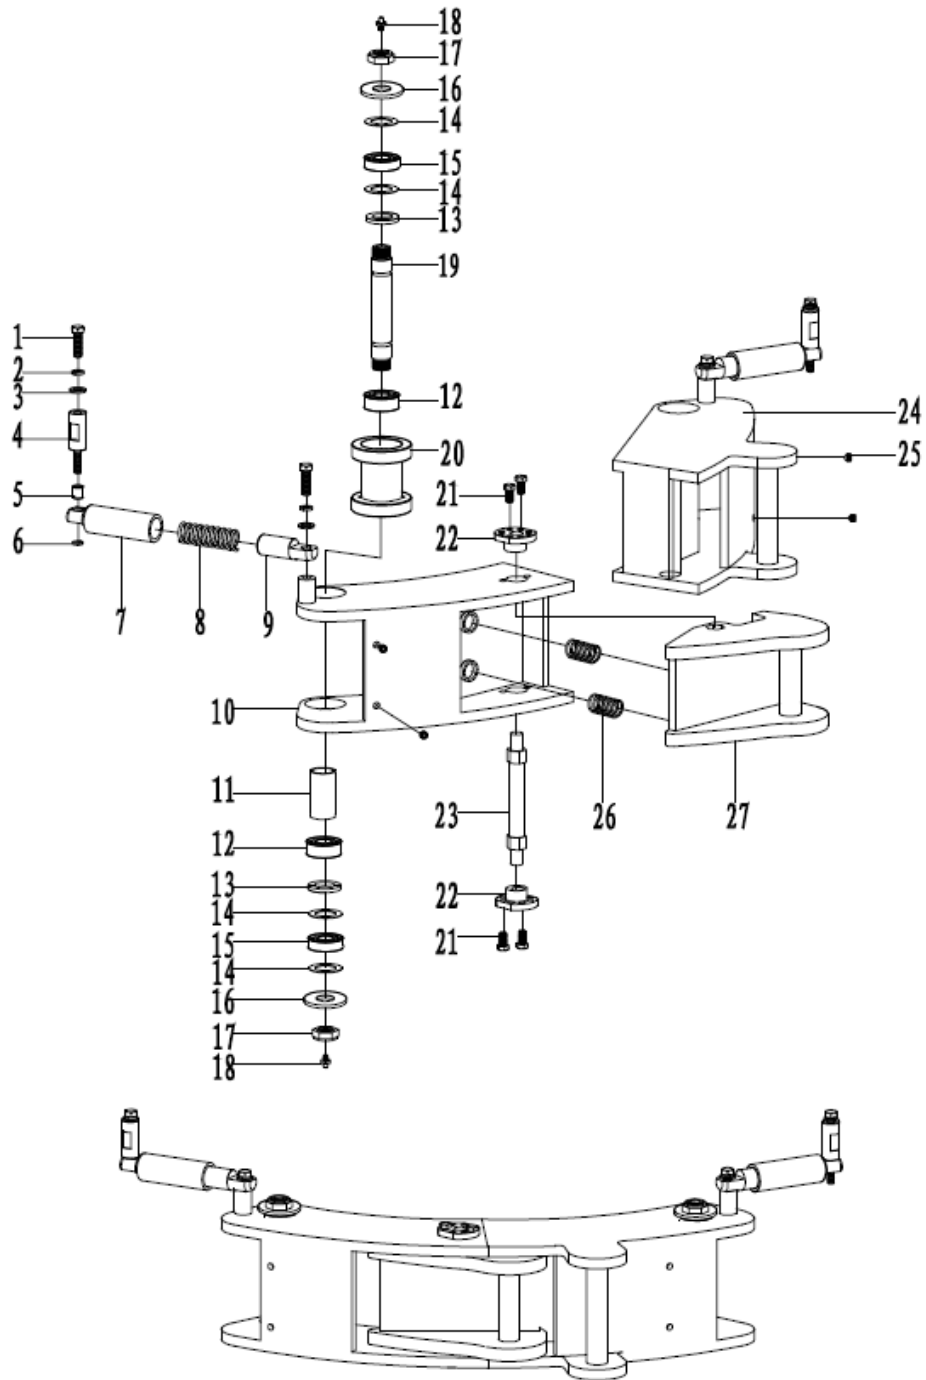

Fig 16
7.16 Assembly of Safety door (Fig 16, Table 16)